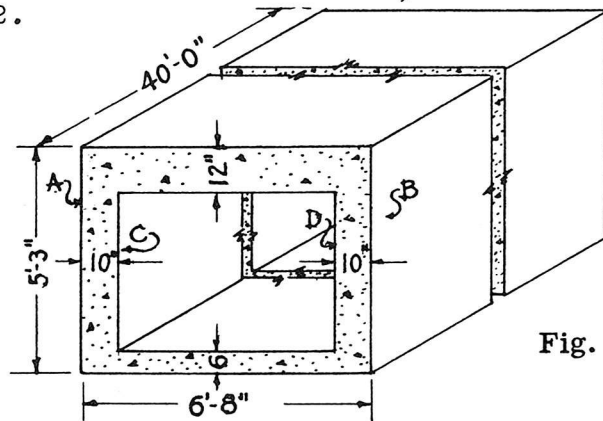

Fig. 2
5. How many square feet of form work must be constructed for the two exterior sides A and B, of the concrete culvert, Figure 2.
6. How many sq. ft. of form work will be required for the interior sides C and D of the culvert shown in Figure 2?
7. Figure the surface area of form work required for the interior top and bottom concrete walls shown in Figure 2.